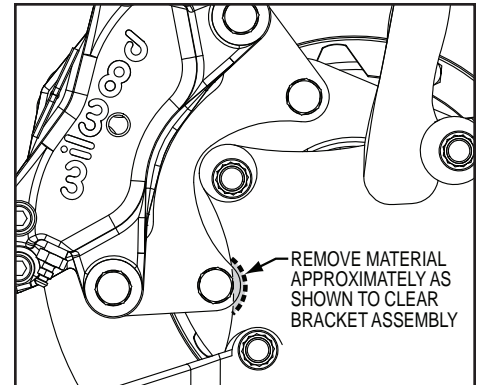

Figure 3. Spindle Modification
- Some minor modifications may be required to the OEM spindle to clear the bracket assembly in the new kit. Refer to Figure 3, page 4.
- Using the new bracket assembly (1) as a template, remove material from the mounting flange of the OEM spindle in the area shown in Figure 3. Remove only the minimum amount of material necessary to clear the new bracket.